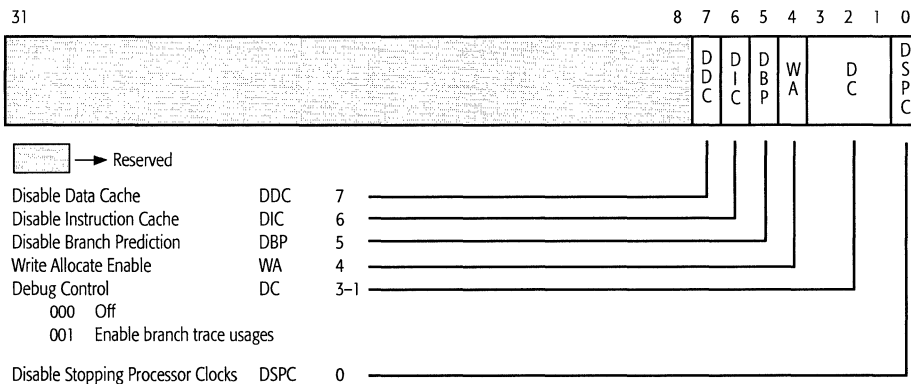

Figure 3. Hardware Configuration Register (HWCR)—MSR 83h
All of the write allocate features in the AMD-K5 processor are enabled by setting bit 4 (WA) of the HWCR (MSR 83h) to 1. For more information on the HWCR, see “Hardware Configuration Register” in the *AMD-K5™ Processor Software Development Guide*, order# 20007. Figure 3 shows the definition of HWCR.